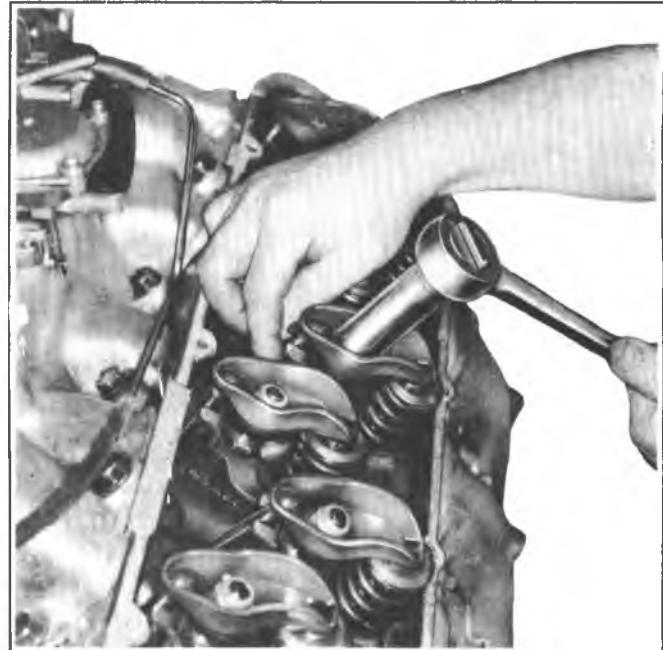

Fig. 6A5-11—Valve Adjustment
c. Back out adjusting nut until lash is felt at the push rod then turn in adjusting nut until all lash is removed. This can be determined by rotating push rod while turning adjusting nut (fig. 6A5-11). When play has been removed, turn adjusting nut in one full additional turn (to center lifter plunger).